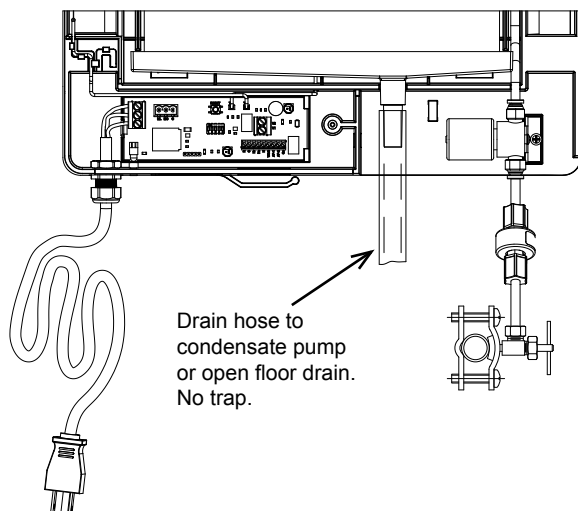

Figure 5
3. Attach the line to the humidifier by simply pushing the line into the push-to-lock fitting and pulling back slightly to seat the line. If it becomes necessary to remove the line, press on the release ring around where the line goes into the fitting to release the line and pull it out. See Figure 5 for plumbing diagram.